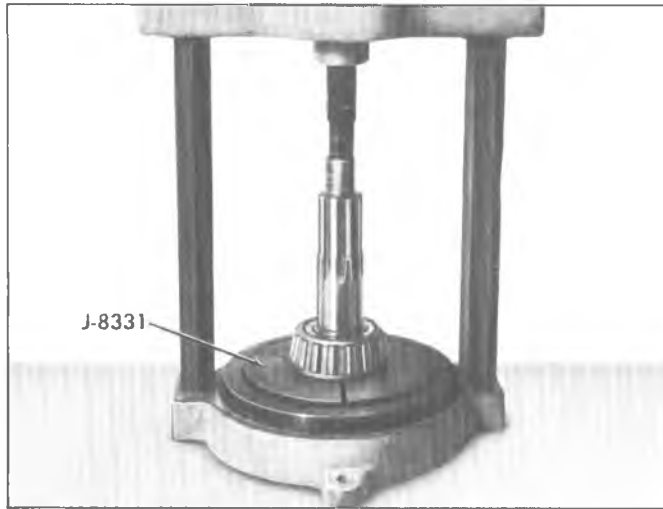

Fig. 7D--Removing Rear Output Shaft Front Bearing
- Using press plates J-8331, remove front bearing from the shaft as shown in Figure 7D.